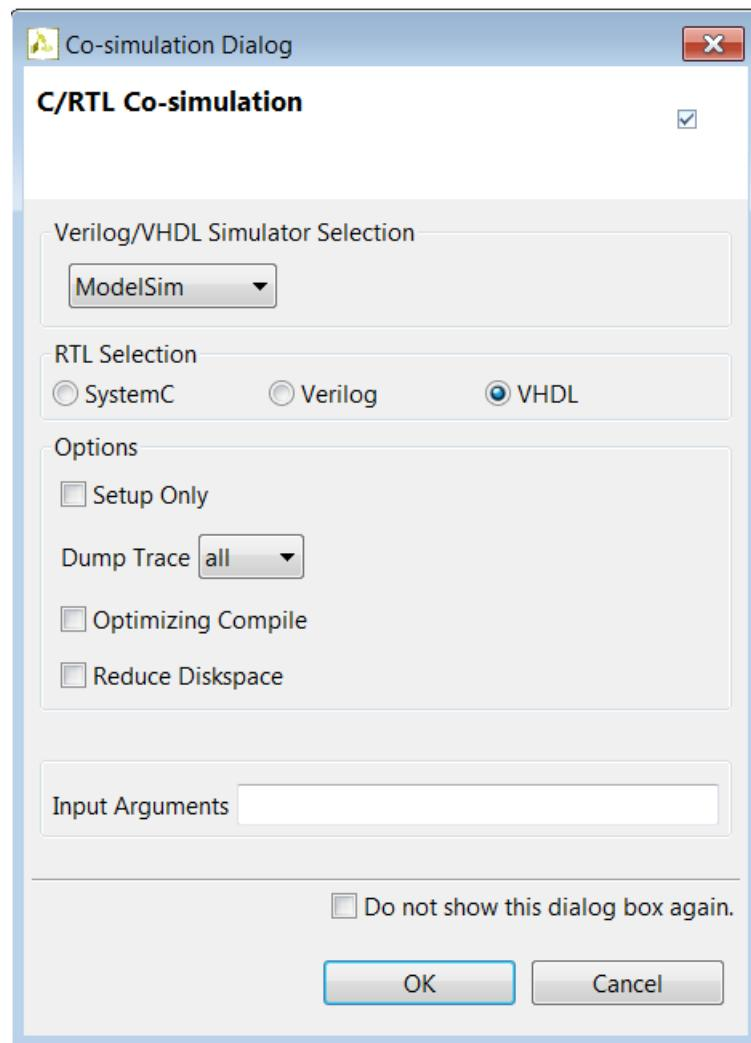

Figure 8-16: Cosimulation Dialog Box for Lab 3
- d. Activate the **Dump Trace** drop-down menu and select the **all** option, to have the options shown in Figure 8-16.